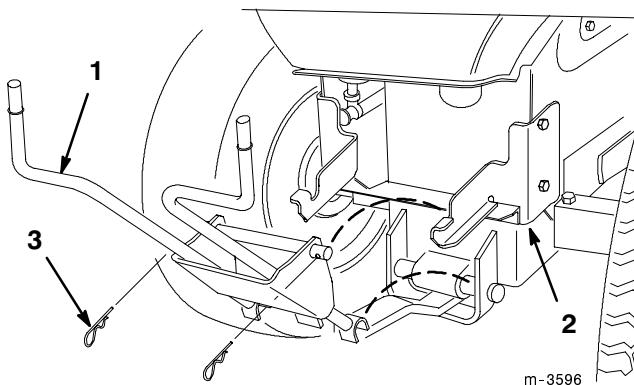

Figure 23
4. Remove the hairpin cotters from the holes at the bottom of the quick-attach bracket (Fig. 23).
5. Lift the quick-attach bracket from the hitch (Fig. 23).